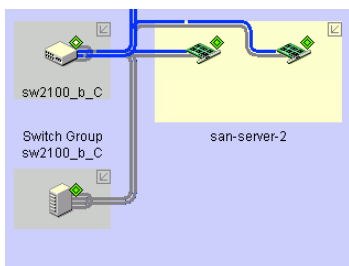

Figure 105 Connection performance as displayed on Physical Map
**NOTE:** In Figure 105, gray lines on the HBA indicate no activity on those connections.